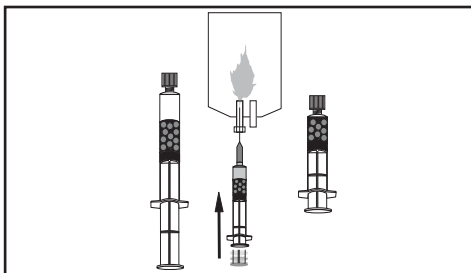

Figure 3.
- 4.2 While keeping syringe upright and taking care not to disrupt settled microspheres, attach a sterile filter needle to the syringe. With the filter needle pointed upward, eject supernatant (Figure 3). Ensure enough supernatant remains inside the syringe to cover the microspheres.